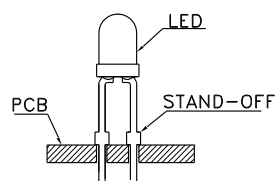
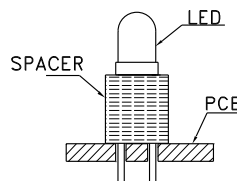

Fig. 3
Fig. 4
3. Use stand-offs (Fig. 3) or spacers (Fig. 4) to securely position the LED above the PCB.